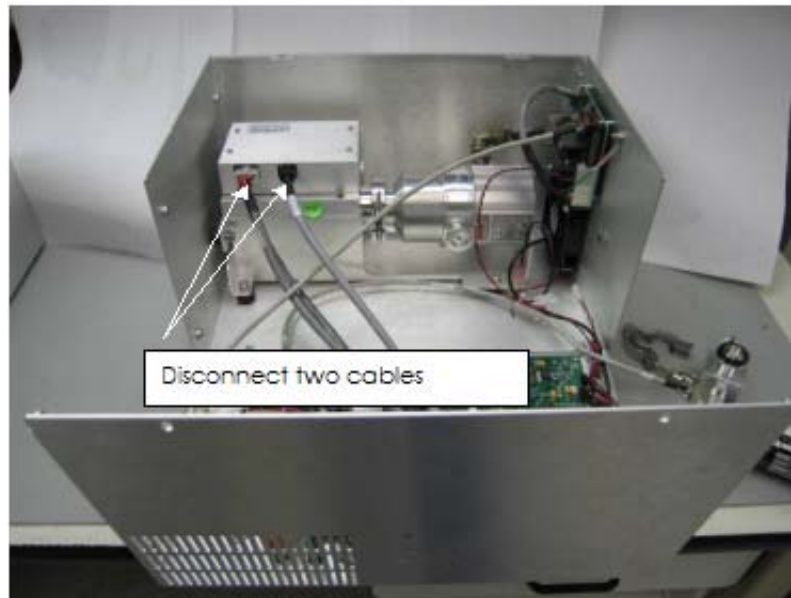

Figure B-60 Cables To Spectrometer
5. Disconnect both cables from the spectrometer (Figure B-60).